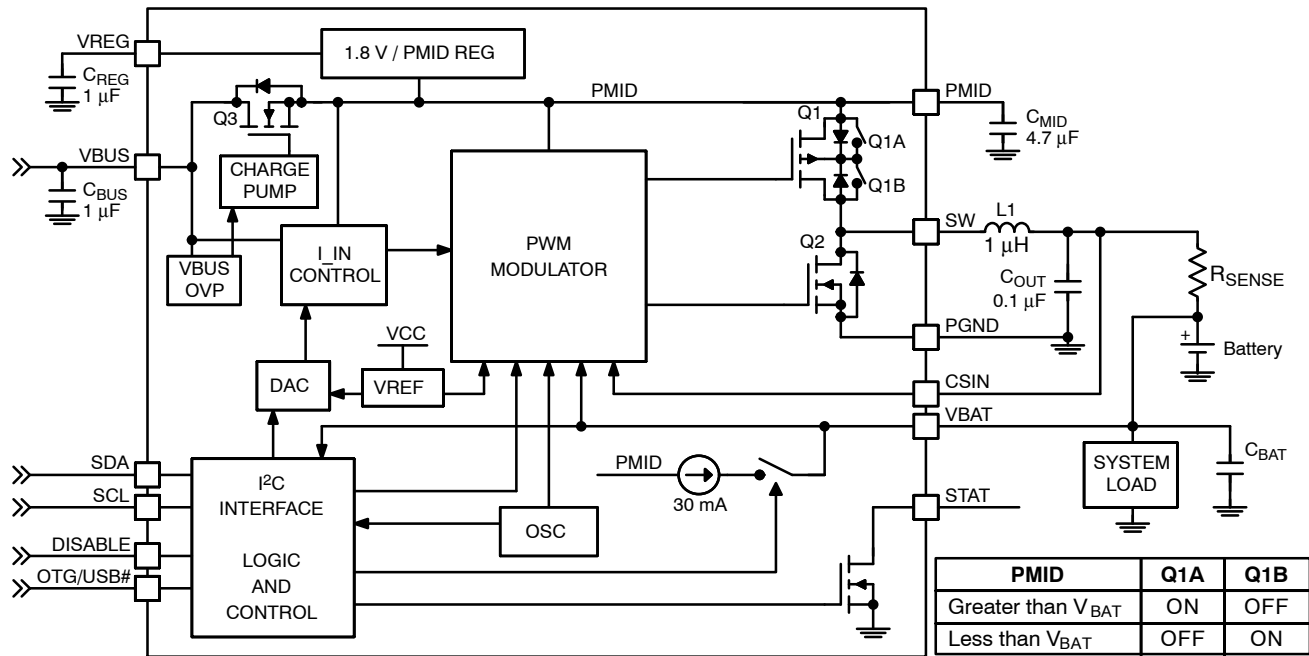

Figure 2. IC and System Block Diagram
2. A 6.3 V rating is sufficient for C_{MID} because PMID is protected from over-voltage surges on VBUS by Q3 (Figure 2).